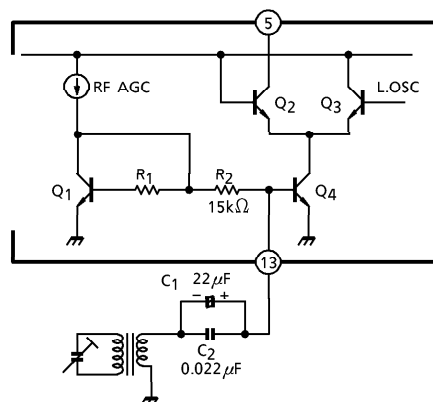

Fig.4
- RF amplifier (See Fig.4)
This stage is composed of emitter-grounded amplifier, the input impedance of which has about $7.3k\Omega$. It is necessary to connect as Fig.4, because the condenser, C_1 is available to the audio by-pass of the RF-AGC, the noise of low frequency.